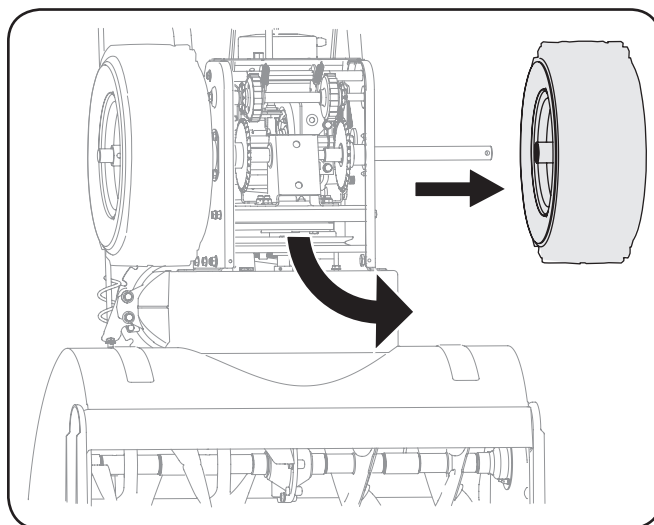

Figure 7-9
3. Remove screws from the frame cover underneath the snow thrower (refer to Figure 7-9). Remove the right wheel from the axle.